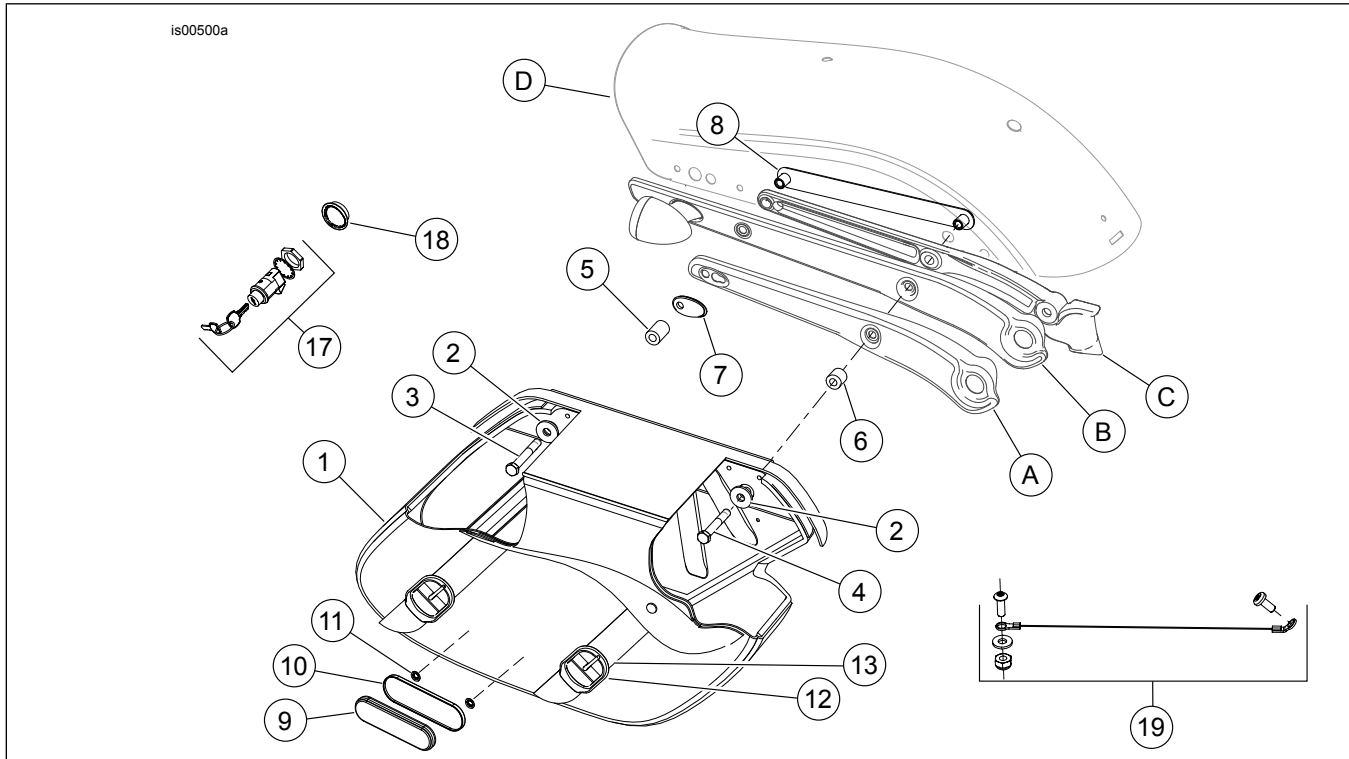

Figure 3. Service Parts for 2006 and Later Applications (except FXDB)
See Figure 3 and Table 3.
5. **All other Models:** See Figure 3 and Table 3. Install the fender support bracket (8) from the kit inside the fender.
12. For 2009 and later FXDB and 2010 and later FXDWG discard recess cover (7)